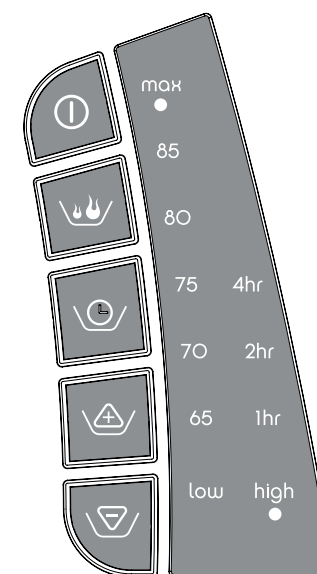

Figure 1
- Upon turning the Heater on, the unit will be in HIGH heat (1500 Watts). (Figure 1)